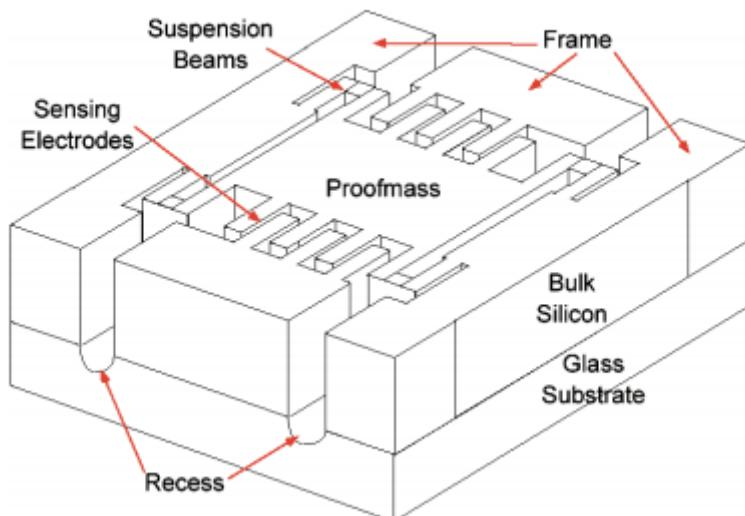

Figure 2
2. (a) (i) Explain the fabrication processes of an accelerometer based on Figure 2.